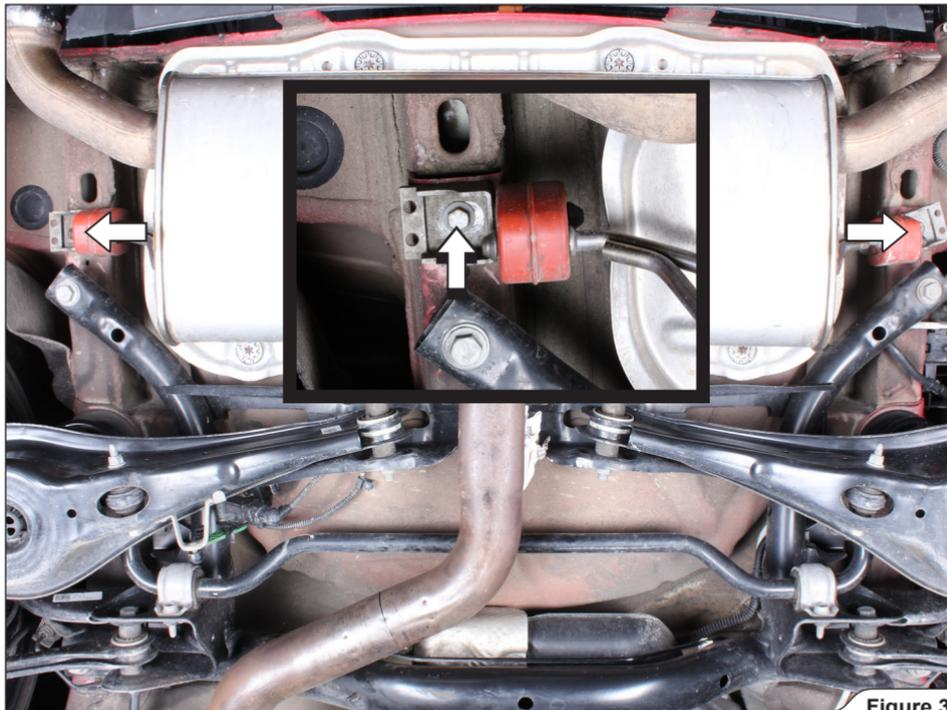

Figure 3
3. Unscrew the rubber bracket on both sides of the muffler and carefully remove the stock exhaust system off the vehicle (**Figure 3**).